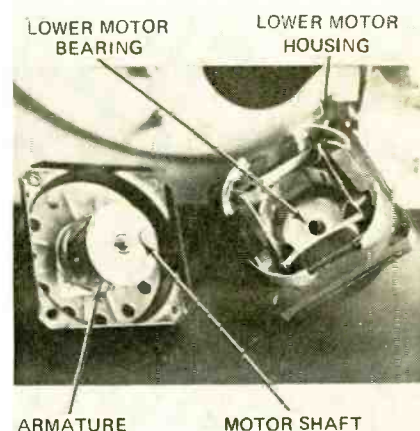

FIG. 7—CHECK THE LOWER BEARING for traces of dirt or other foreign matter. Clean with cotton swab.
9. Examine the lower bearing (Fig. 7) for any traces of dirt or foreign matter. Spray it completely with the degreaser. Saturate a swab with oil and clean the inner surfaces of the bearing. Rotate the swab in the bearing opening while adding a drop or two of oil to clean the side surfaces.